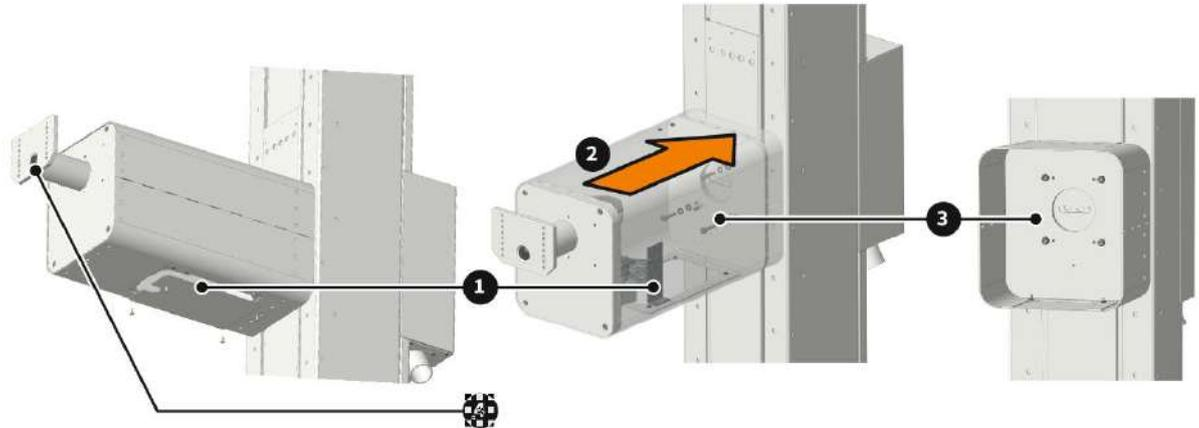
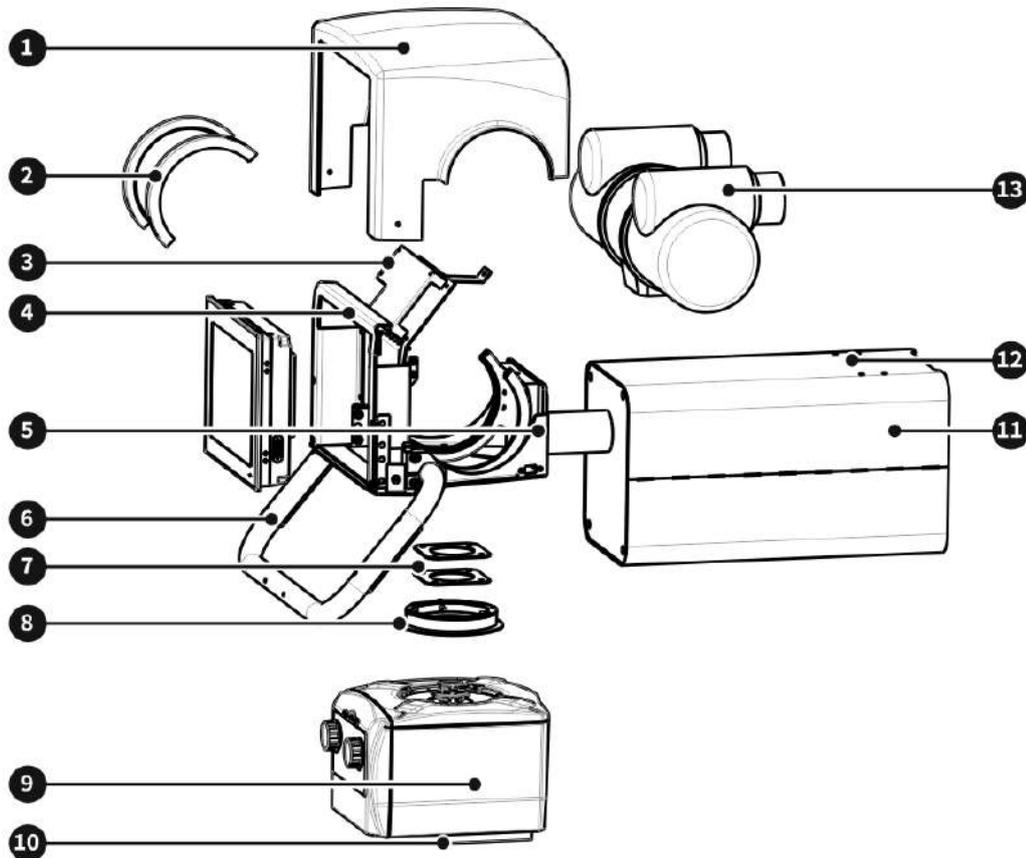

Figure 29 – Mounting the tube arm
Figure 30 – Tube head mount
2. Remove the cover from the arm service access port (Figure 29 #1). For better access, the PC board inside can also be removed.
4. **With help**, place the arm (Figure 29 #2) on the vertical carriage 4x mounting holes (Figure 29 #3).
5. Secure the arm by tightening the 4x mounting screws (Figure 29 #3).
Figure 30 shows the parts of the X-ray tube head assembly. Follow the steps below to mount the tube head.
- b. Trunnion ring and tube cradle (Figure 30 #5)
- c. X-ray tube (Figure 30 #13)
- d. Collimator (Figure 30 #9) – in its original packaging
- e. DAP (Figure 30 #10)
2. Unpack the partially assembled tube head assembly (Figure 30 #5) in the accessories crate. The X-ray tube and collimator are shipped in their own original packaging.
4. Mount the tube cradle (Figure 30 #5) and the base of the Trunnion ring onto the end of the tube arm (Figure 29 #4). If the mounting position is marked in factory, please use the holes marked. Install the lower halves of the Trunnion ring onto the base. If the mounting position is NOT marked, mount the tube so that the Trunnion rings almost touch the edge of the opening on the bottom of the cradle.
5. Loosen and move the brake release handle (Figure 29 #6) from shipping position to its operating position. Leave the protective sleeve on the handle until the room installation is completed.
7. Remove the securing screw of the CXTSD PC board bracket (Figure 29 #3) and lift the bracket up to allow access to the inside of the tube mount.
8. Place the X-ray tube (Figure 29 #13) in the lower halves of the Trunnions and secure it by mounting the upper Trunnion halves (Figure 29 #2).
9. Put the CXTSD board bracket (Figure 30 #2) back to its place and secure it with its mounting screw.
- a. collimator spacers (Figure 30 #7) under the console holder;
- b. collimator rotating flange (Figure 30 #8) – make sure that the flange orientation is correct (front facing forward, so that it can be turned 90 degrees in both CW and CCW directions) below the spacers.
11. Mount the collimator Figure 30 #9) as instructed in the collimator user manual onto the rotating flange.